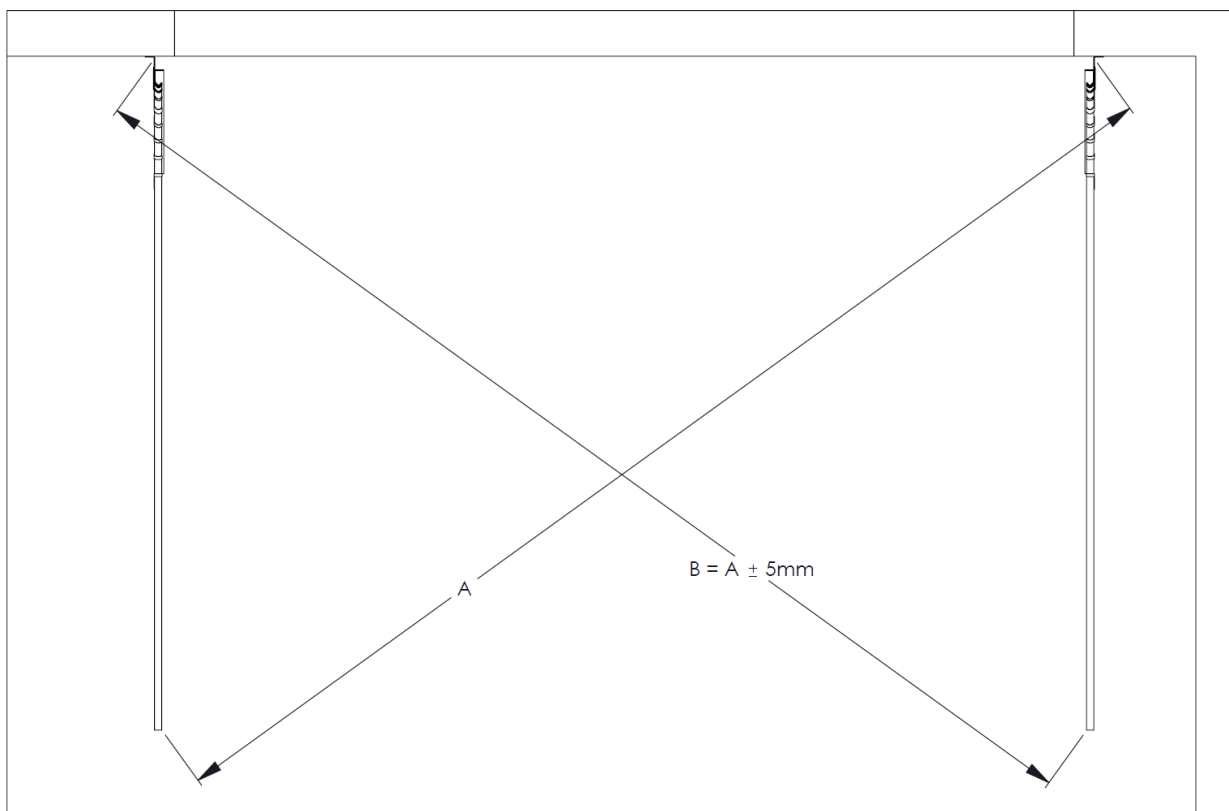

Figure 18
- d. Before bracing tracks ensure they are square to the opening and level. Measure diagonally from flag bracket to the end of horizontal tracks. Ensure both sides are the same to within 5mm and fix off. (Figure 18)